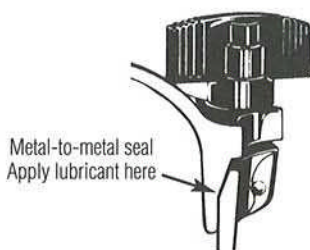

Fig. 1
1. METAL-TO-METAL SEAL. (See Fig. 1) Periodically check your seal. The metal-to-metal seal must be lubricated periodically (as stated in the instructions) to prevent the cover from sticking to the bottom because of dryness or lack of lubrication. If the sterilizer is operated without any lubricant, this could result in severe damage to the metal-to-metal seal and make it very difficult to remove the cover in some cases, and also become very difficult to maintain a steam-tight seal. It is recommended that a small amount of high temperature lubricant, such as high vacuum grease, be applied every third or fourth use. The metal-to-metal seal must not be permitted to become dry. It is also important to wipe off the metal-to-metal seal by using a clean towel to remove any build-up of